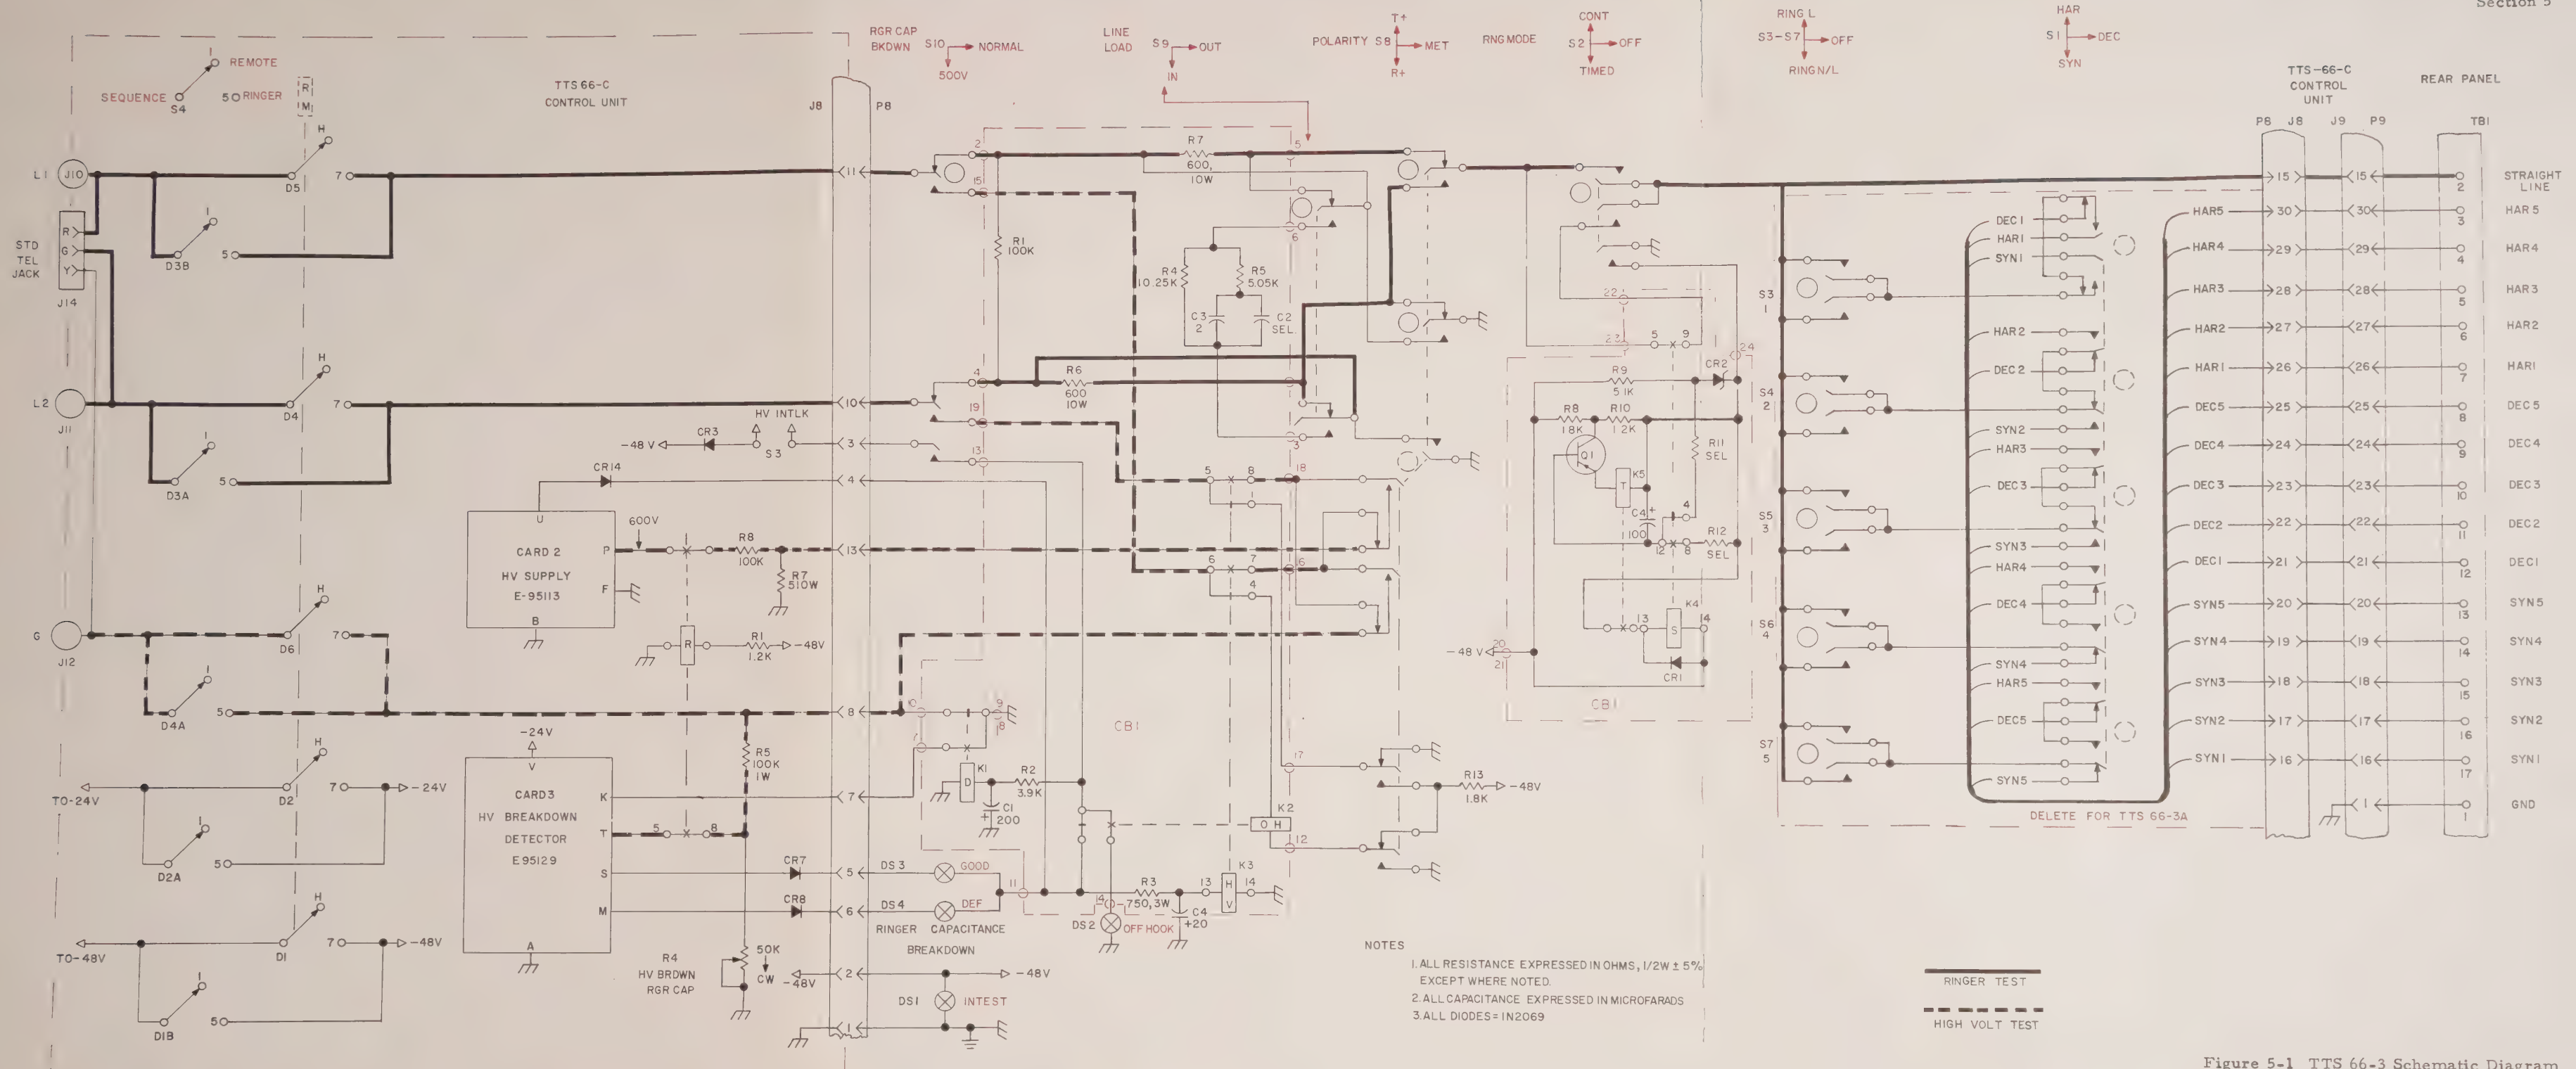

Figure 5-1 TTS 66-3 Schematic Diagram
3.2 CIRCUIT OPERATION. (See schematic diagram, Figure 5-1). The ringing frequencies are applied to the TTS 66-3 through plug P8. Key switch S1 selects the type of ringing to be used and key switches S3 to S7 select either a locked or non-locked mode of operation for each frequency. Key switch S2 provides for continuous or timed ringing.